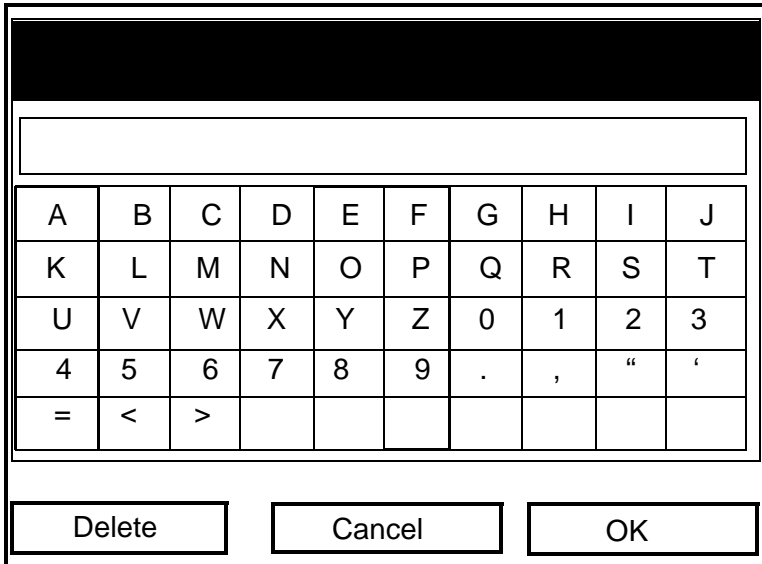

Figure 5-12: The Text Creation Window
2. Press [ENTER] to select "Message," which opens the text creation window, shown in Figure 5-12 on the next page.